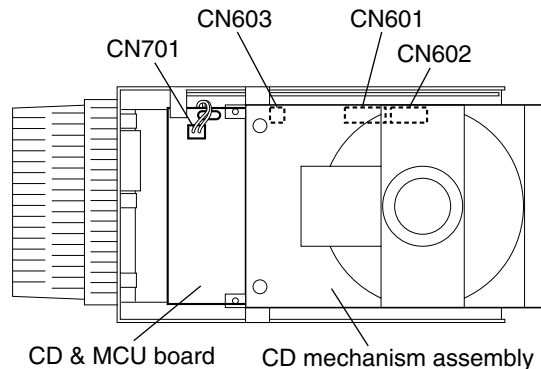

Fig.13
■ Removing the CD mechanism assembly (See Figs. 13 to 15.)
1. From the top side of the main body, disconnect the wires from the four connectors CN601, CN602, CN603 and CN701 on the CD & MCU board. (See Fig.13.)